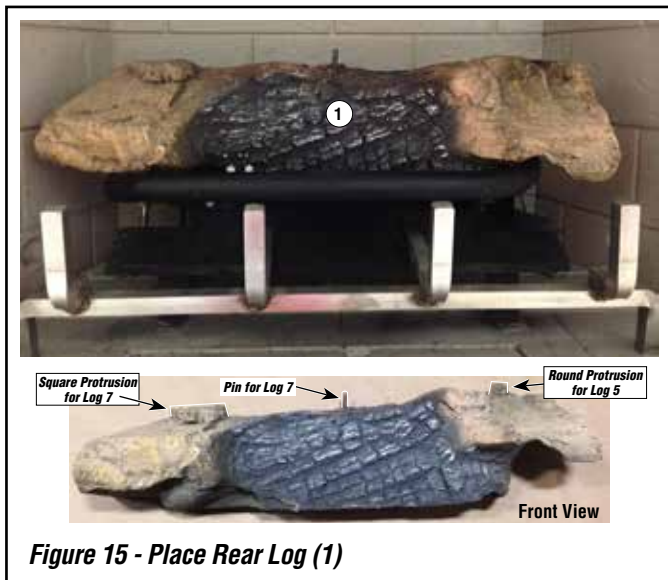

Figure 15 - Place Rear Log (1)
1. Place rear log (1) being pilot in-between the tube burner. (**Figure 15**)
- Position top rear log (7) over the square protrusion and pin on the rear log (See **Figure 15 and G**).